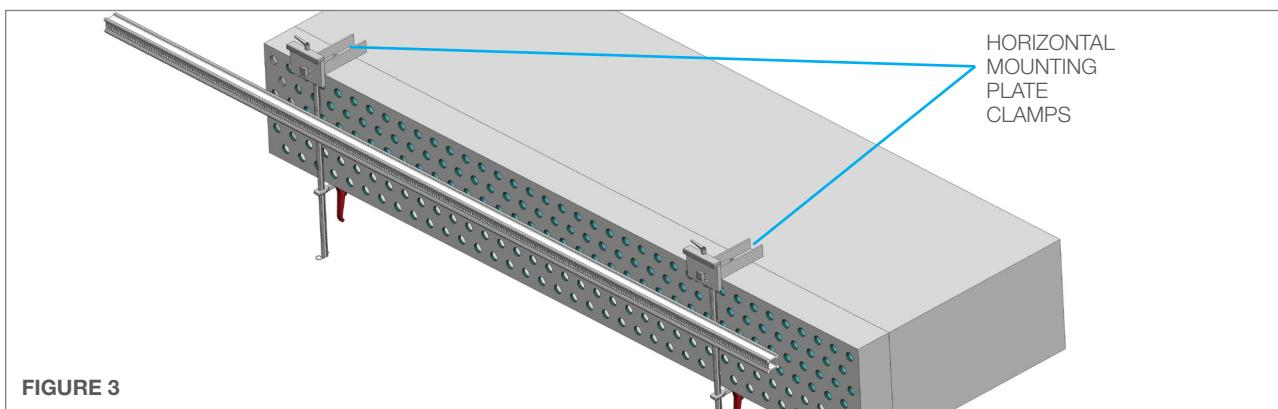

FIGURE 3
3. Loosen the Horizontal Mounting Plate Clamps and the Slide the **Horizontal Rail (slots facing out)** in between the Clamp Finger and Rail Clamp. The **Horizontal Rail** should be ordered 30" (762 mm) longer than width of the tube bundle to provide complete coverage with a single installation. (**Figure 3**)
3. Fasten the Center Pivot Mount to the Bottom Plate with the mounting hole with four 1/4" x 5/8" flat head cap screws. Fasten the Foot Blocks and Bottom Plate to the AUTOBOX® (ABX-2L) with the 1/4" x 1 1/4" flat head cap screws. **(Figure 3)**